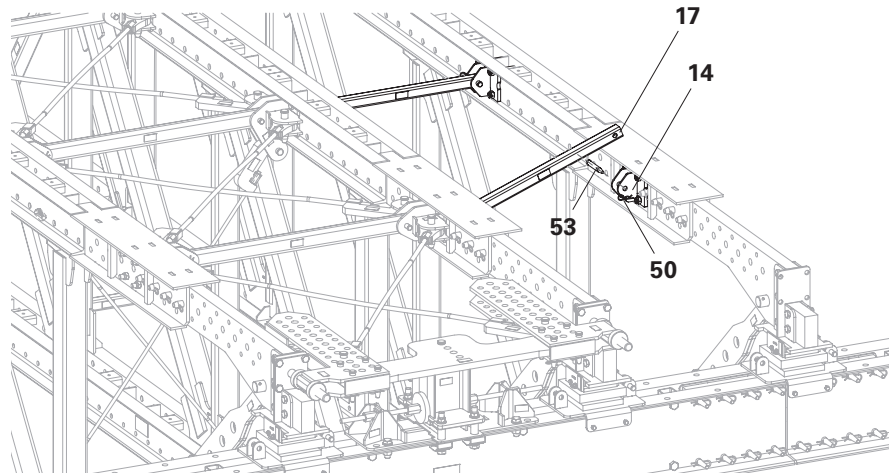

Fig. C3.01
1. Fold the coupling posts (17) upwards. (Fig. C3.01)
2. Connect all coupling posts (17) in the top and bottom chords with the coupling connection (14).
3. Insert filler pins (53) and secure with cotter pins (50).